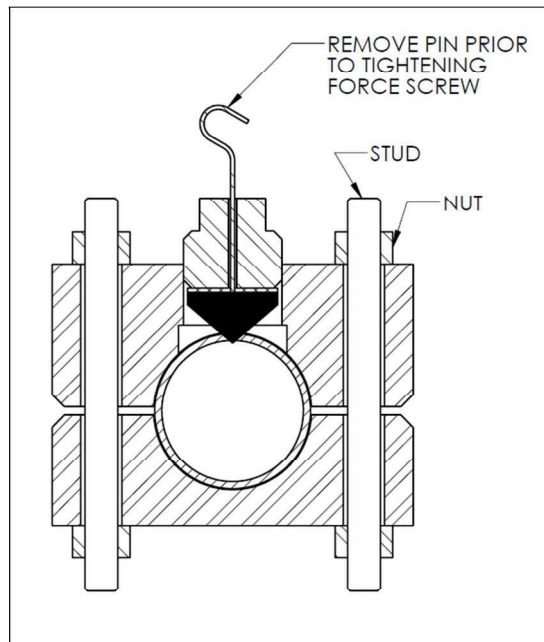

Figure 5
7. Hold the PLIDCO Smith+Clamp firmly in position and uniformly tighten studs and nuts to the torque value indicated in Table 1. An equal gap all around the two halves of the fitting must be maintained. Ensure there is full nut engagement by having a minimum of 2 threads protruding beyond the nuts as shown in Figure 5. If the fitting is to be fully welded to make the PLIDCO Smith+Clamp permanent, leave a minimum of 3/16" (4.8mm) thread protruding above each nut.
9. Tighten the force screw to a torque value between 70 to 80 ft-lbs(95 to 109 Nm). Completed assembly should look as shown in Figure 5, less the pilot pin.